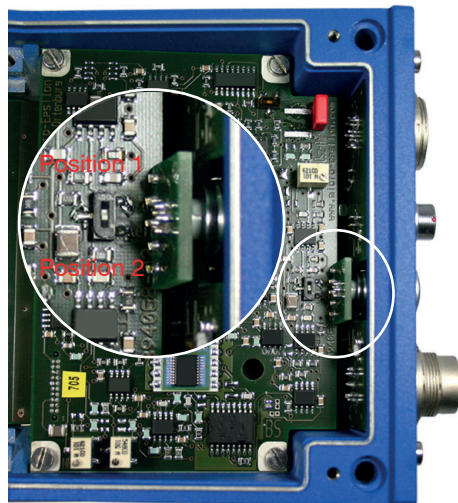

Fig. 17 Electronics in the controller
Choose with a slide switch, see Fig. 17, between conducting and nonconducting target.
- Slide switch on the demodulator in position 2 (metals, see Fig. 17).